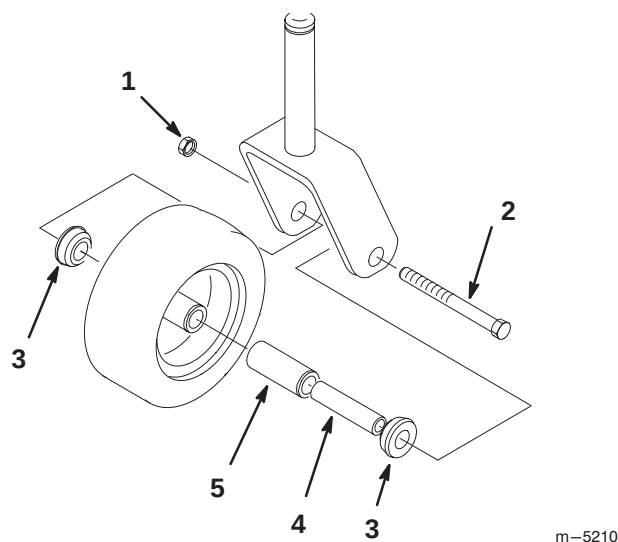

Figure 60
1. Remove the locknut and wheel bolt holding the caster wheel to the caster fork (Fig. 60).
2. Remove one bushing, then pull the spanner bushing and roller bearing out of the wheel hub (Fig. 60).
3. Remove the other bushing from the wheel hub and clean any grease and dirt from the wheel hub (Fig. 60).
4. Inspect the roller bearing, bushings, spanner bushing and inside of the wheel hub for wear. Replace any defective or worn parts (Fig. 60).
5. To assemble, place one (1) bushing into the wheel hub. Grease the roller bearing and spanner bushing and slide them into the wheel hub. Place the second bushing into the wheel hub (Fig. 60).
6. Install the caster wheel into the caster fork and secure with the wheel bolt and locknut. Tighten the locknut until the spanner bushing bottoms against the inside of the caster forks (Fig. 60).